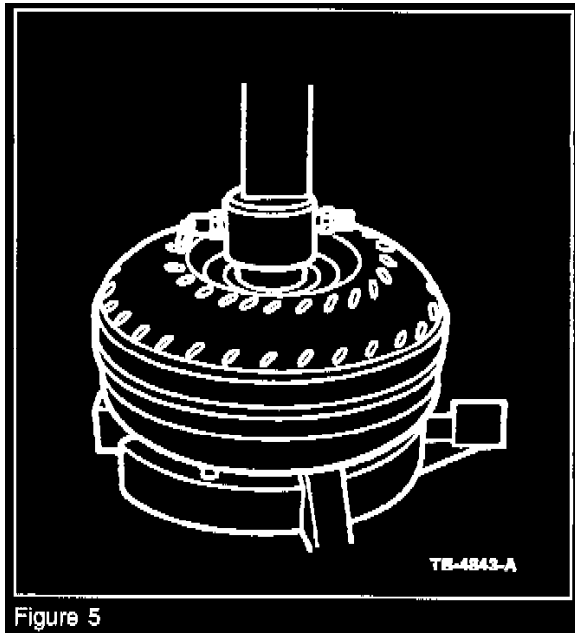

Figure 5
7. Turn the torque converter and tool upside down and reinstall into the press. Repeat Steps 2-6 to check for leaks on the opposite side. Refer to Figure 5.